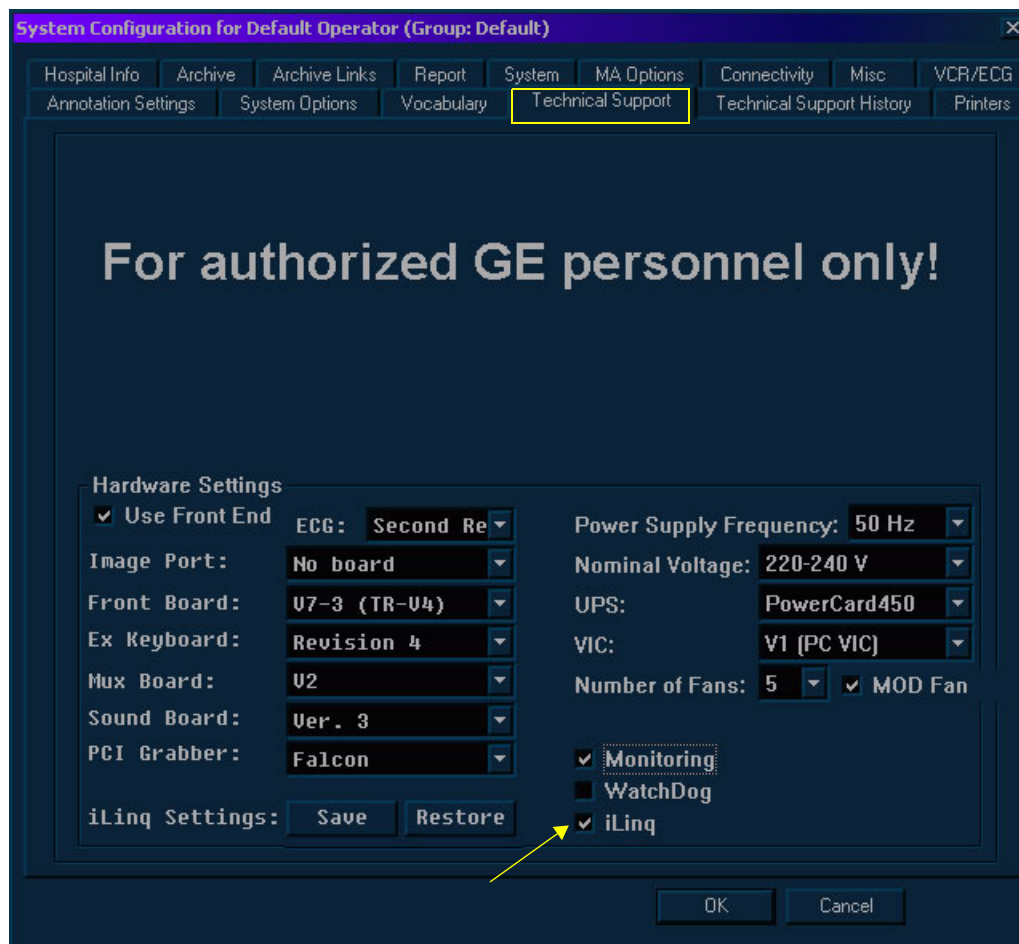

Figure 7-58 Technical Support - System Configuration
- 1) From the System Configuration window, make sure that **iLinq** (the Common Service platform) is enabled under the *Technical Support* tab, as shown in Figure 7-58 below.